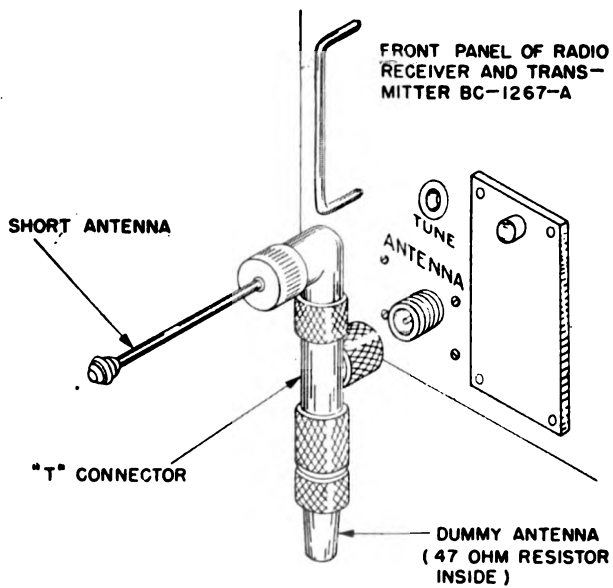

Figure 77. Test antenna being installed.
b. Connect the T-shaped connector to the ANTENNA connector as shown in figure 77.
(1) Tune the transmitter to the operating frequency as described in paragraphs 62 and 63.
(2) Retune the antenna tuning control (ANT.) and the receiver and transmitter portions of the ANTENNA MATCHING section (subpars. *e* and *f*).
(3) Turn the STANDBY-OPERATE switch of the control unit to the STANDBY position.
(4) Disconnect the short test antenna and the dummy antenna from the transmitter ANTENNA T-connector.
(5) Tune the receiver to the transmitter frequency as described in paragraph 64.
(6) Remove Cord CD-1104 from the transmitter ANTENNA T-connector.
(7) Connect the short test antenna and the antenna to the T-connector (fig. 77).
(8) Turn the STANDBY-OPERATE switch of the control unit to the OPERATE position and check the transmitter tuning.
(9) Turn the TEST SWITCH to the PO position.
(10) Adjust the receiver and transmitter portions of the ANTENNA MATCHING section for maximum amplitude of the pulse on the oscilloscope screen.
(11) Recheck the receiver tuning as described in subparagraphs (3), (4), and (5) above.
(12) The foregoing tuning adjustments should be rechecked several times because of the interaction of the antenna circuits.
c. Couple the transmitter to the wavemeter by means of the short antenna assembly (fig. 77) which will radiate a signal to the wavemeter antenna. It is imperative that the input of the unknown frequency source be adjusted to the correct level for monitoring. This is accomplished by listening to the received signal with the headphones and adjusting its level by sliding the antenna pick-up rod in and out of the case until a very weak signal is obtained. This adjustment is made with the control